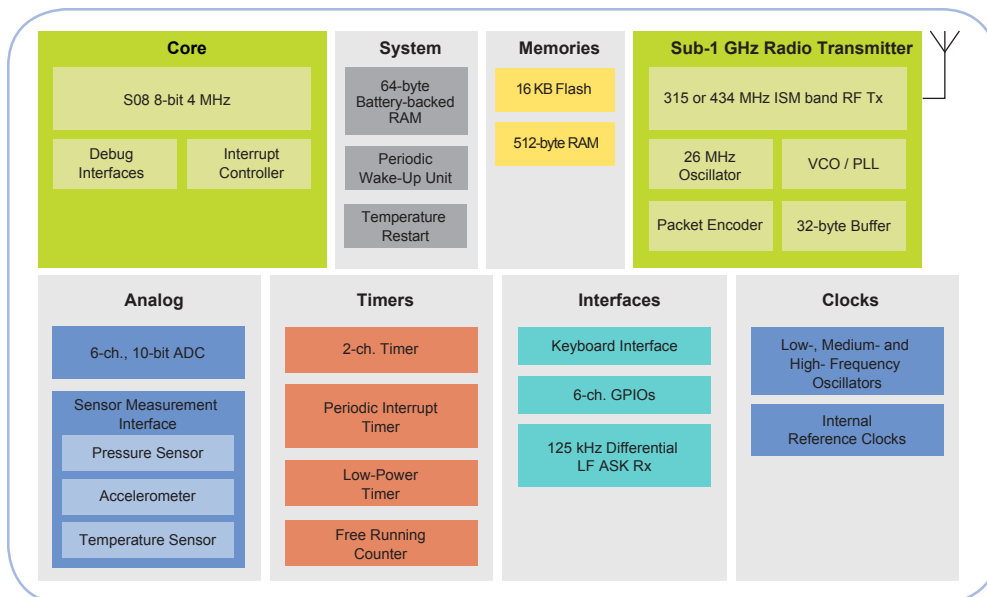

Figure 4: The FXTH87E block diagram shows the variety of system level blocks for TPMS.
Typical power consumption of the FXTH87E TPMS is 5 mA at 434 MHz @ 5 dBm (dBmW), and only 180 nA in stop mode. A variety of stop modes allows programmers several options for optimal performance versus current consumption tradeoffs. The MCU integrates both LF and RF communication technologies. The LFR consumes very low power while receiving low-frequency signals for short range communication in TPMS. The internal 315/434 MHz RF transmitter in the FXTH87E TPMS consists of an RF module (RFM) with crystal oscillator, voltage controlled oscillator (VCO), fractal-n phase locked loop (PLL) and RF output amplifier (PA) for an antenna. It also contains a small state machine controller, random time generator and hardware data buffer for automated output or direct control from the MCU. The overall system block diagram shown in Figure 4 identifies other system aspects including analog to digital conversion (ADC), sensor interfaces, RF amplification and a variety of timer and memory blocks.